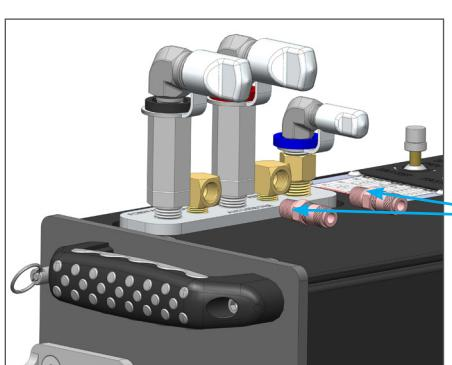

FIGURE 5
4. Install the two Quick Disconnect Fittings to the brass elbows using pipe dope or tape on the tapered threads. (**FIGURE 5**)